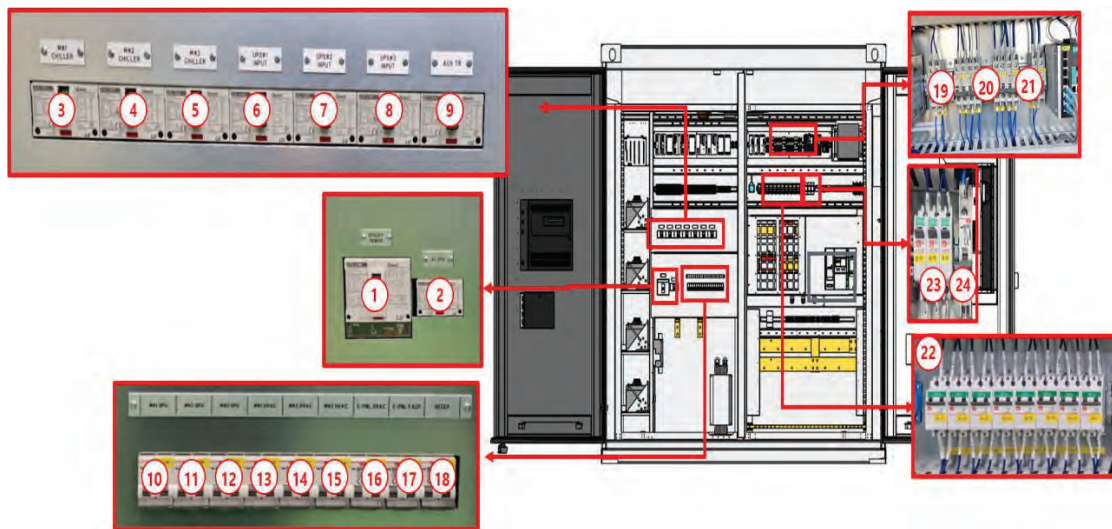

Figure 7: Layout of AC Aux Power MCCB and CP of E-Panel
AC Aux Power supplies the power to the loads in DC LINK. Aux loads are: M-LINK control power, FACP, UPS and Communication devices, HVAC and Chiller etc. Figure 7 illustrates the positions of the MCCB and Circuit Protector (CP) related to AC Aux Power. Table 4: Actions and results of AC Aux Power MCCBs/CP in E-Panel lists the names of each switch and the corresponding results based on their Turn ON status. Power to Aux loads can be switched on with No. 1 Main Aux Power. Power switch operation is shown in Figure 7. Turn on all AC Aux Power MCCB/CP switches sequentially as listed in Table 4.